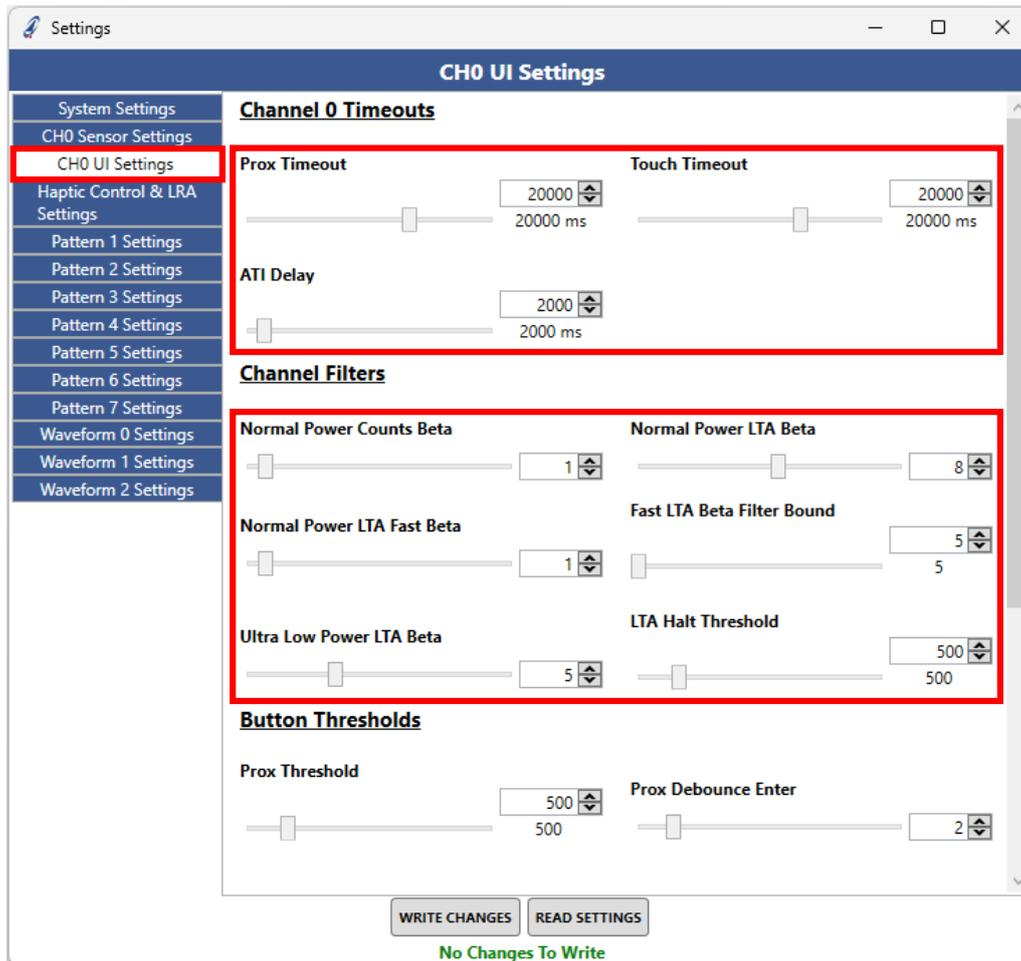
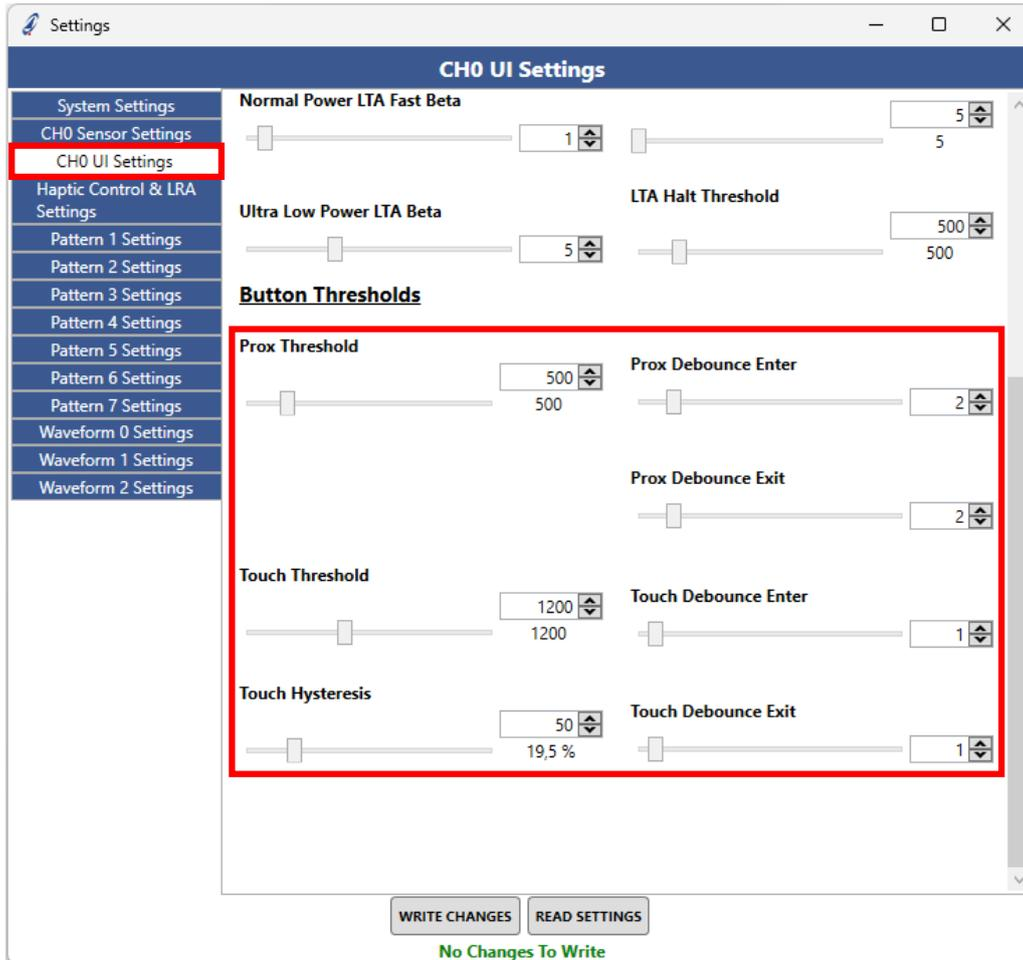

Figure 4.4: Channel 0 Timeout and Filter Settings
Figure 4.5: Channel 0 Threshold Settings
The “User Interface (UI) Settings” tab can be used to configure the channel event timeout and filter settings as shown in Figure 4.4. Other settings, such as channel proximity and touch thresholds, debounce values, and hysteresis settings, can also be configured as shown in Figure 4.5.